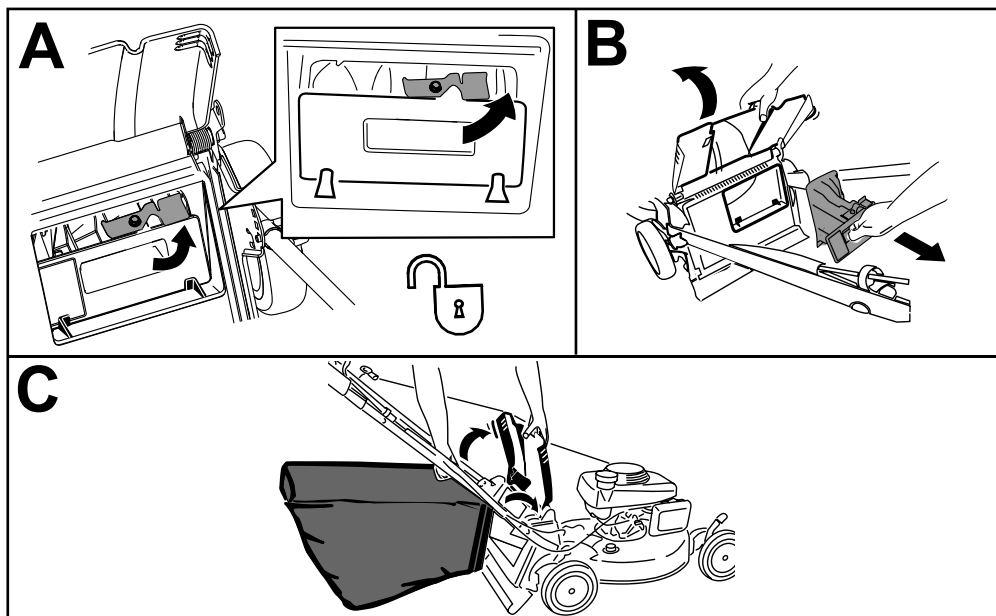

Figure 16
**Note:** To unlock the rear plug, rotate the lever on the plug to the right (Figure 16).
1. Raise and hold up the rear deflector and unlock the rear plug (A of Figure 16).
2. Pull out the rear plug (B of Figure 16).
3. Hang the upper front edge of the bag from the grass-bag pins on the notches of the handle brackets (C of Figure 16).